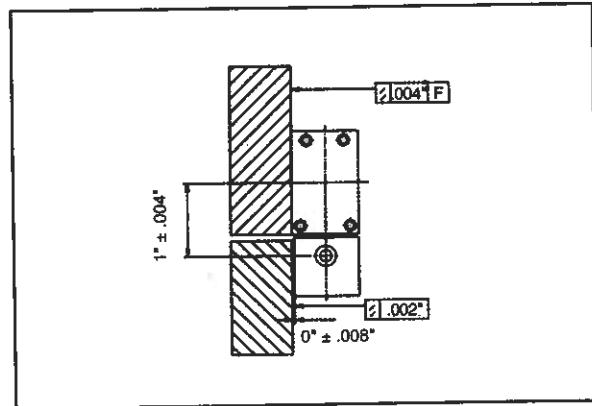

Figure 9. Parallel mounting.
- Parallel mounting **Figure 9 & 10**: The parallelism of the two mounting surfaces must be less than 0.1 mm of each other..